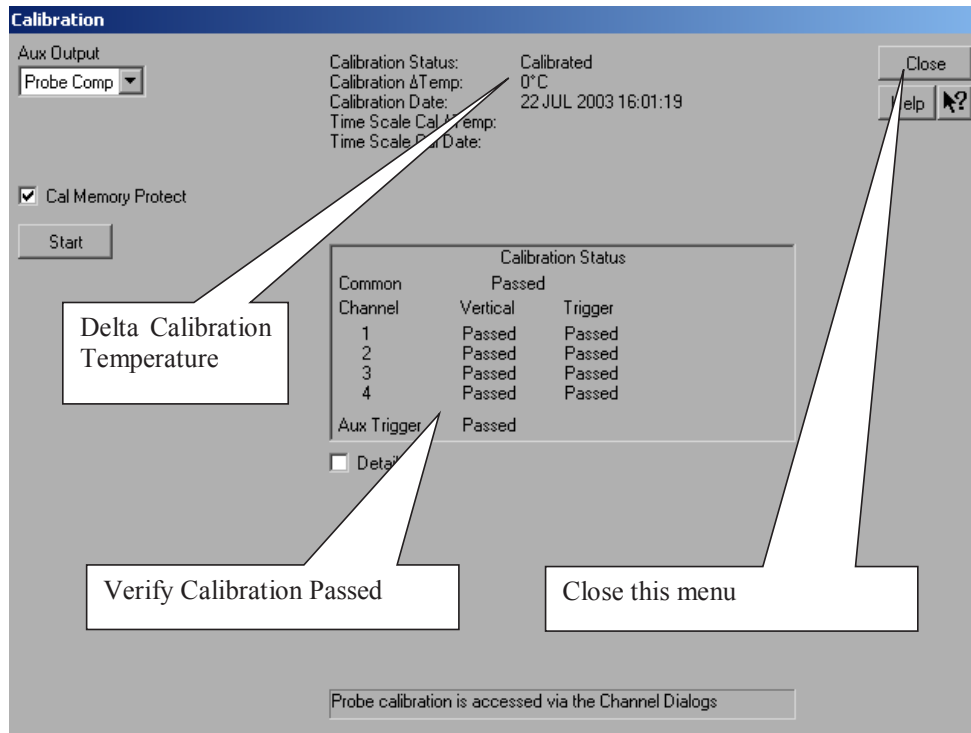

Figure 109 Calibration Status Screen.
- 6 Referring to Figure 109 below, perform the following steps: